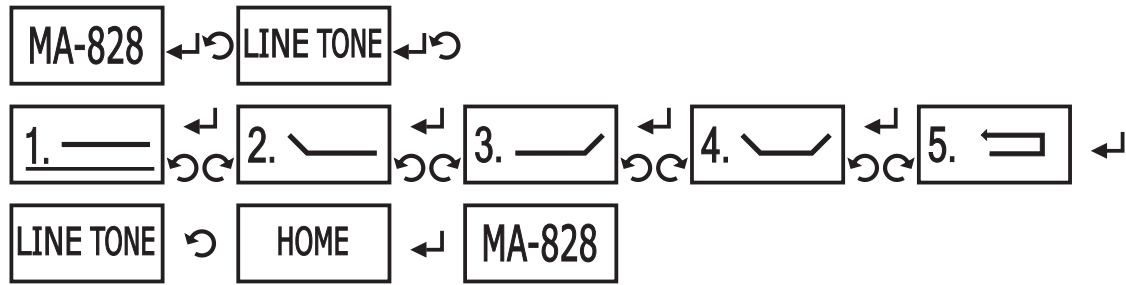

Fig. 10
4. LINE TONE Setting. Fig. 10: